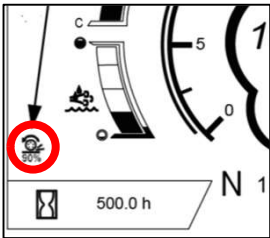

Fig. 2
2. The "rimpull" value is shown on the display in the lower left corner, immediately above the hour meter icon as shown in Fig. 2. It is recommended to lower the traction percentage on soft ground and increase it on firm ground instead. Keep an average value (about 80%) on medium-compact soils and in the presence of medium-hard material to be moved. Adjusting the rimpull correctly will prevent wheel slippage during the bucket filling phase and ensure more effective penetration at lower engine speeds.